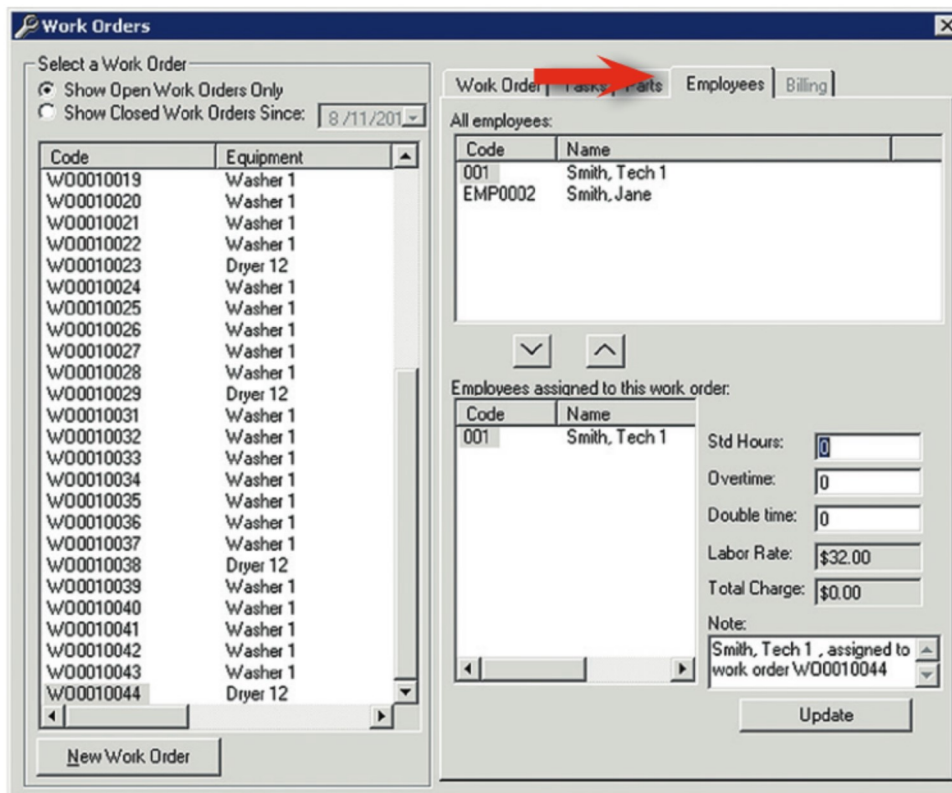

Figure 42. Work Orders: Employees dialog.
3. Click the **Employees** tab (see Figure 42).